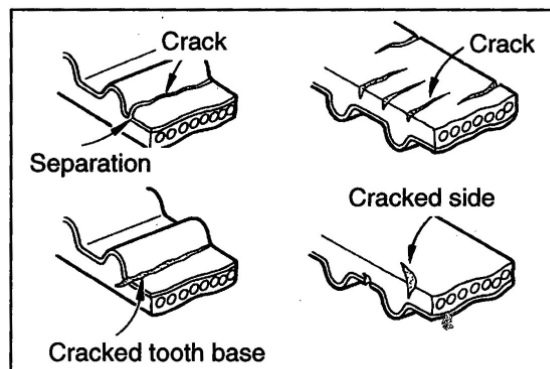

Fig.4-73
- (2) Surface cracks in the backing rubber.
- (3) Splits in the canvas and/or separation of the canvas and rubber.
- (4) Cracks at the bases of teeth.
- (5) Cracks in the side of the belt, see Fig.4-73.